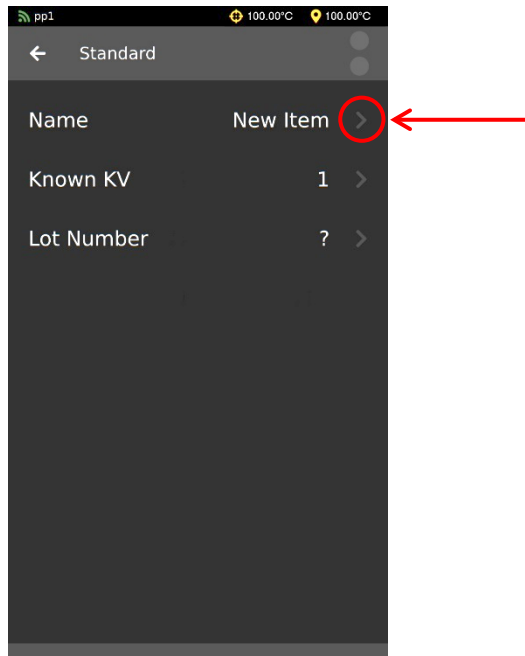

Figure 25: Name New Standard
5. From the **Add New** screen, use a single touch to select the arrow next to **New Item**. See Figure 25.